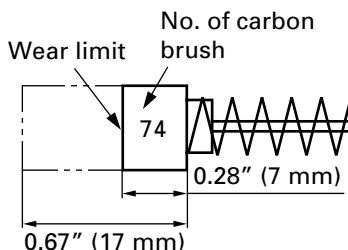

Fig. 11
3. Inspecting the carbon brushes (Fig. 11)
NOTE: Use HITACHI carbon brush No. 74 indicated in Fig. 11.